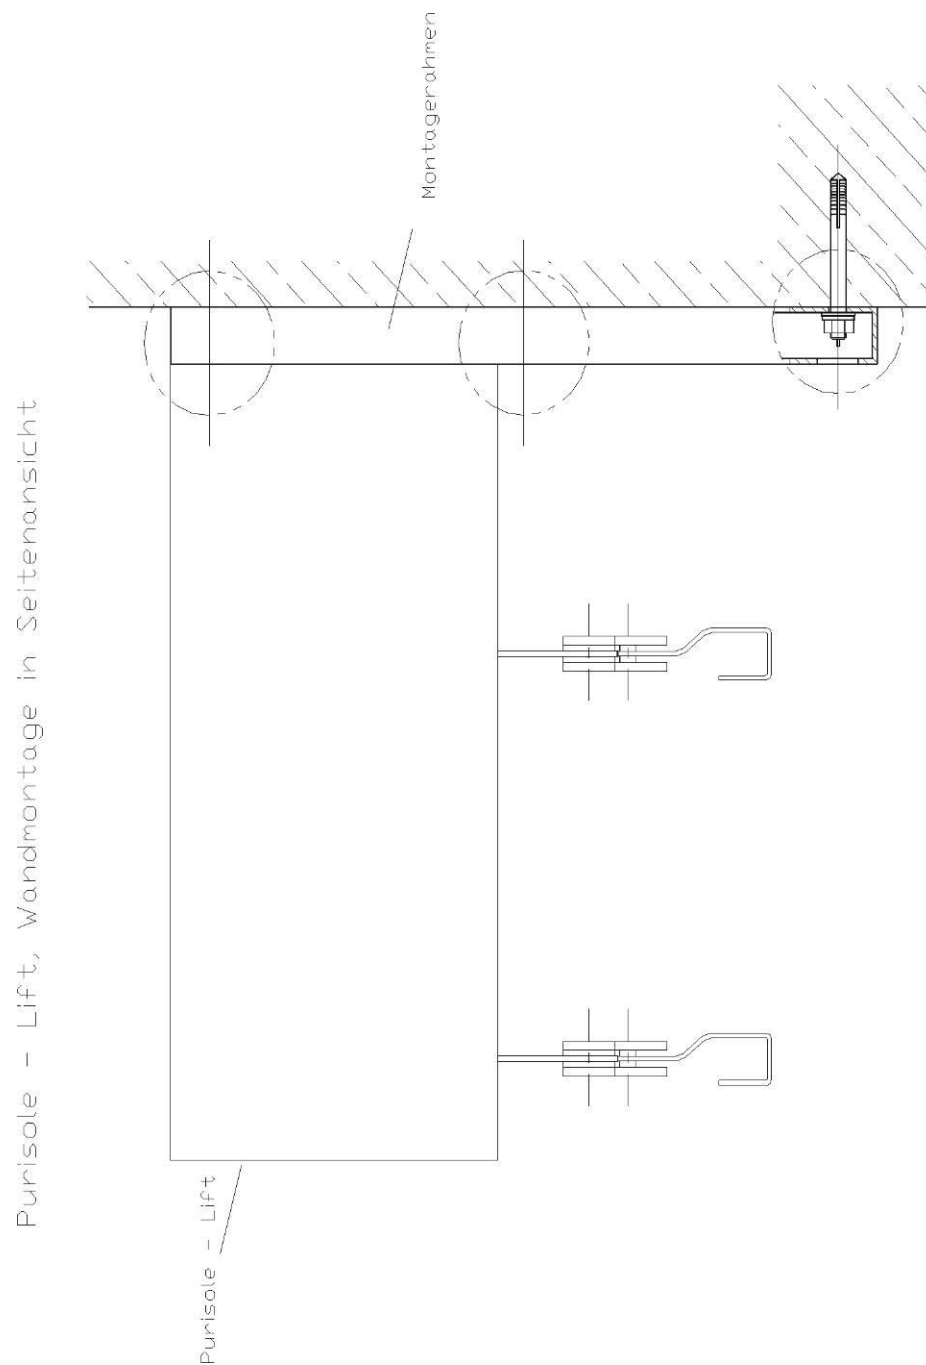

Figure 5.4: Purisole lift, side view of wall installation, 1:2 scale
3. Then slide installation frame onto the dowel screws upright, e.g. with the 6 each M6 weld nuts facing up, see *sketch* Figure 5.4 and secure with DIN M6 nuts and spring clips (use spanner wrench SW10).